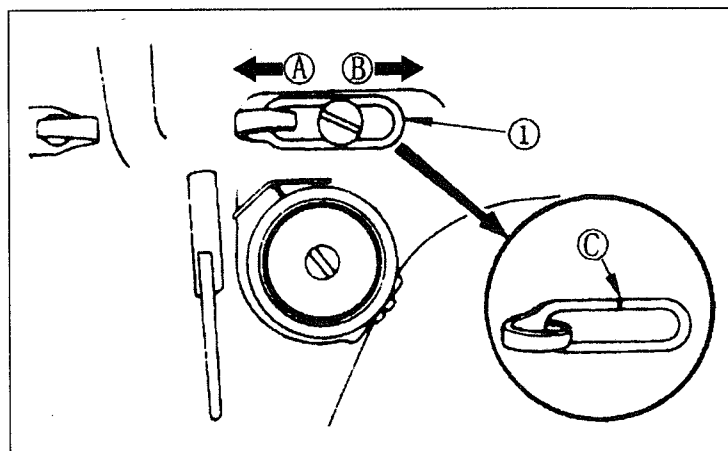

Fig.22
16.ADJUSTING THE THREAD TAKE-UP STROKE (Fig.22)